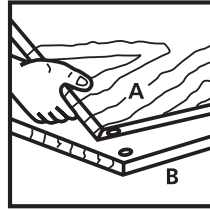

Figure 1
1. Align two boards in their finished position and mark them "A" and "B". See Figure 1.